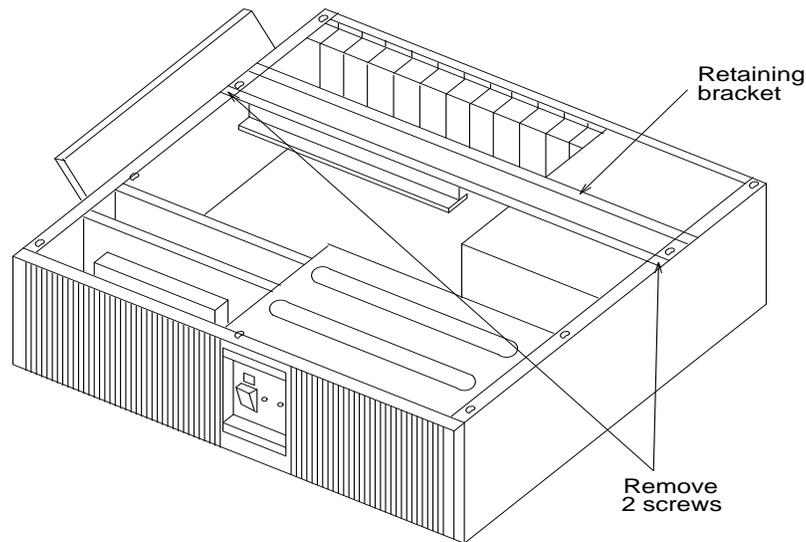

Figure 5-4. Removing Screws in the Retaining Bracket.
1. Use a Phillips #2 screwdriver to remove the two hold-down screws in the retaining bracket. See Figure 5-4.